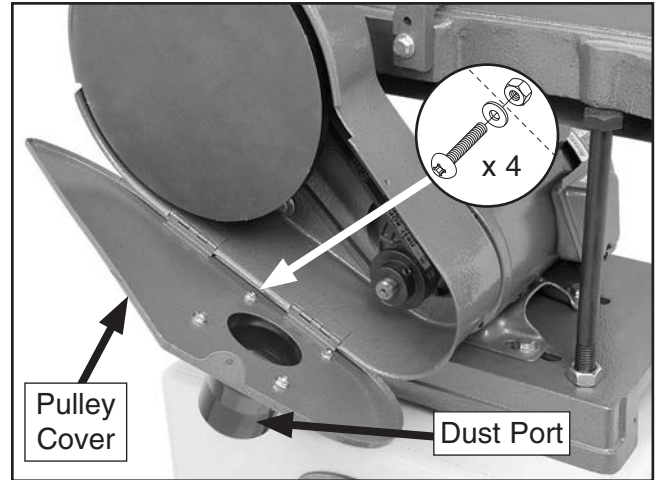

Figure 33. 2½" dust port installed.
25. Install the 2½" black plastic dust port onto the pulley cover with (4) 10-24 x ⅜" Phillips head screws, 10-24 hex nuts, and #10 flat washers, as shown in **Figure 33**.